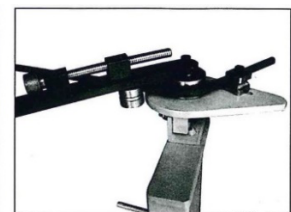

Figure7-3
4. Rotate bend arm away from the stopper to produce your bend as seen in fig 7-3.